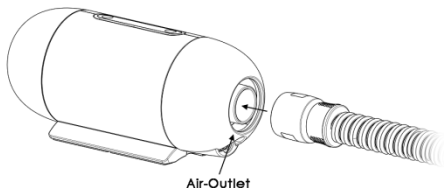

Fig. 11-4
1. Connect one end of the tube to the air outlet of the main device, as shown in Fig. 11-4.